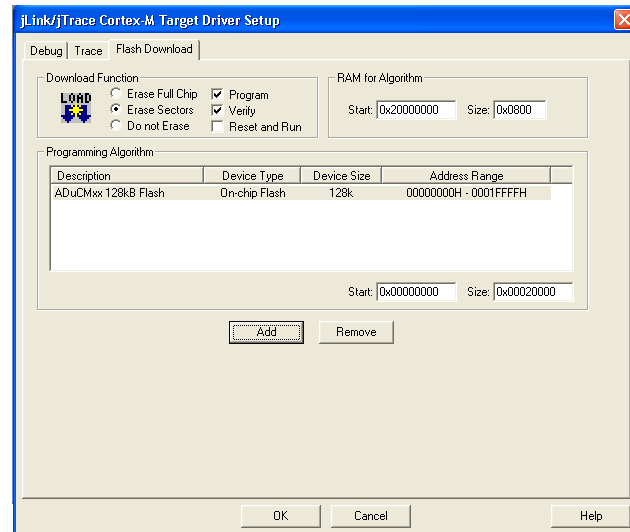

Figure 32. Finishing Target Driver Setup
8. Select **OK** when the window shown in Figure 32 appears.